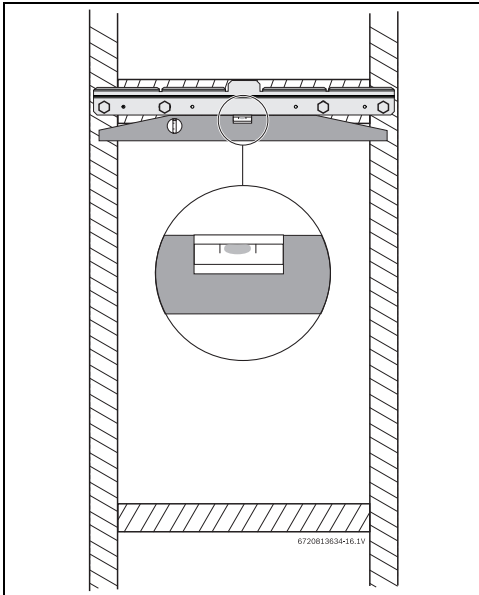

Fig. 8 Leveling wall mounting bracket
- ▶ Secure the wall mounting bracket provided with the heater to a wall surface. The heater must be kept level on the wall surface, see fig. 8, page 15.